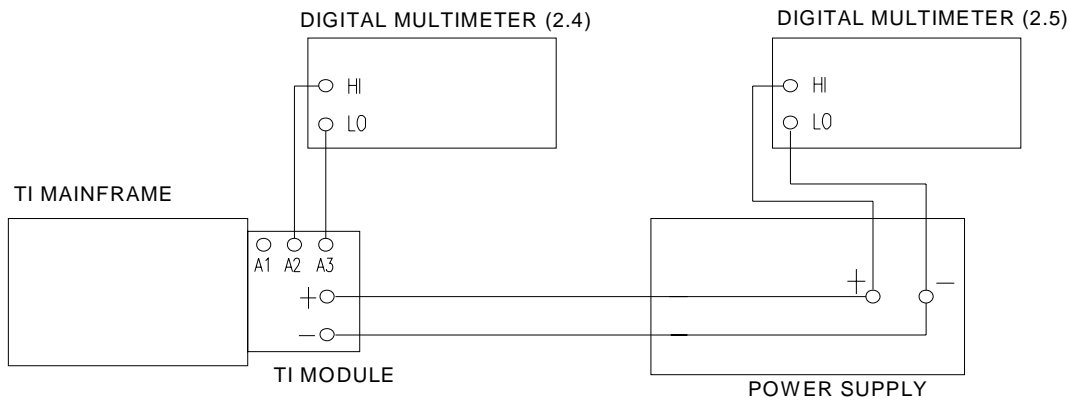
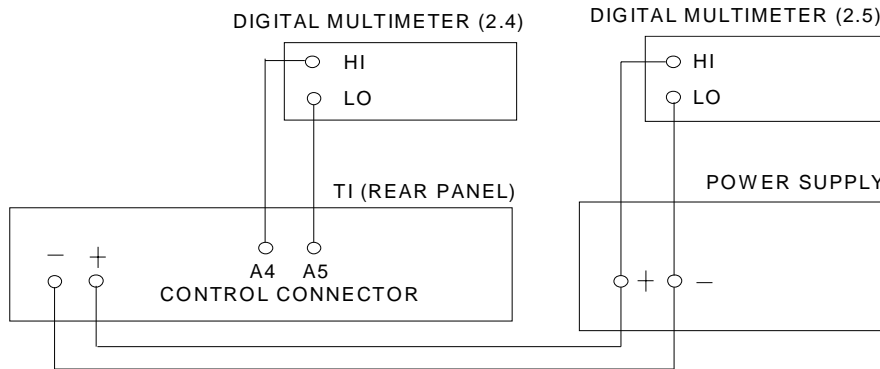

Figure 1.
Figure 2.
4.1.1 Connect equipment as shown in Figure 1, except connect Model 6060B as shown in Figure 2. Use Power Supply (2.7) for Modules 60503B and 60507B, and Power Supply (2.6) for all others.